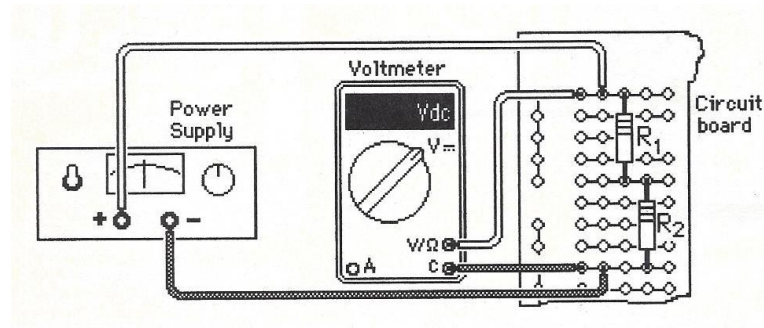

Figure 4
3-1 Using a dc power supply and two decade resistance boxes, construct a Thevenin equivalent circuit with a variable load, as in Fig. 4. Set the voltage to $E_{TH} = 10\ \text{V}$, and the source resistance to $R_{TH} = 500\ \Omega$.
1. Connect resistors R1 and R2 as a voltage divider, as shown in Figure 4.